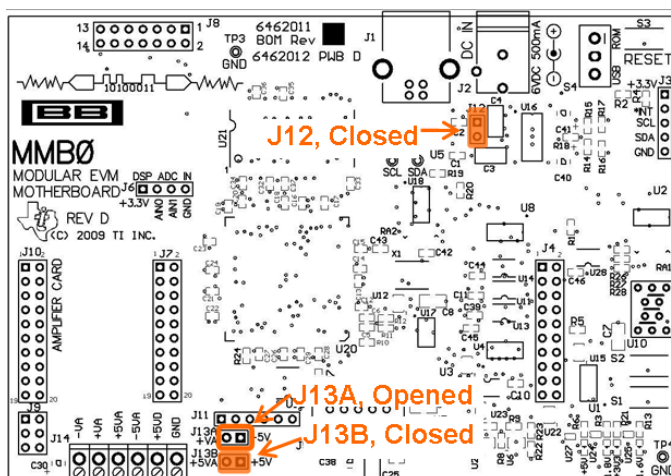

Figure 8. MMB0 Motherboard Jumper Configuration
- Step 2. Set J12 to closed, J13A to open, and J13B to closed on the MMB0, as shown in Figure 8.